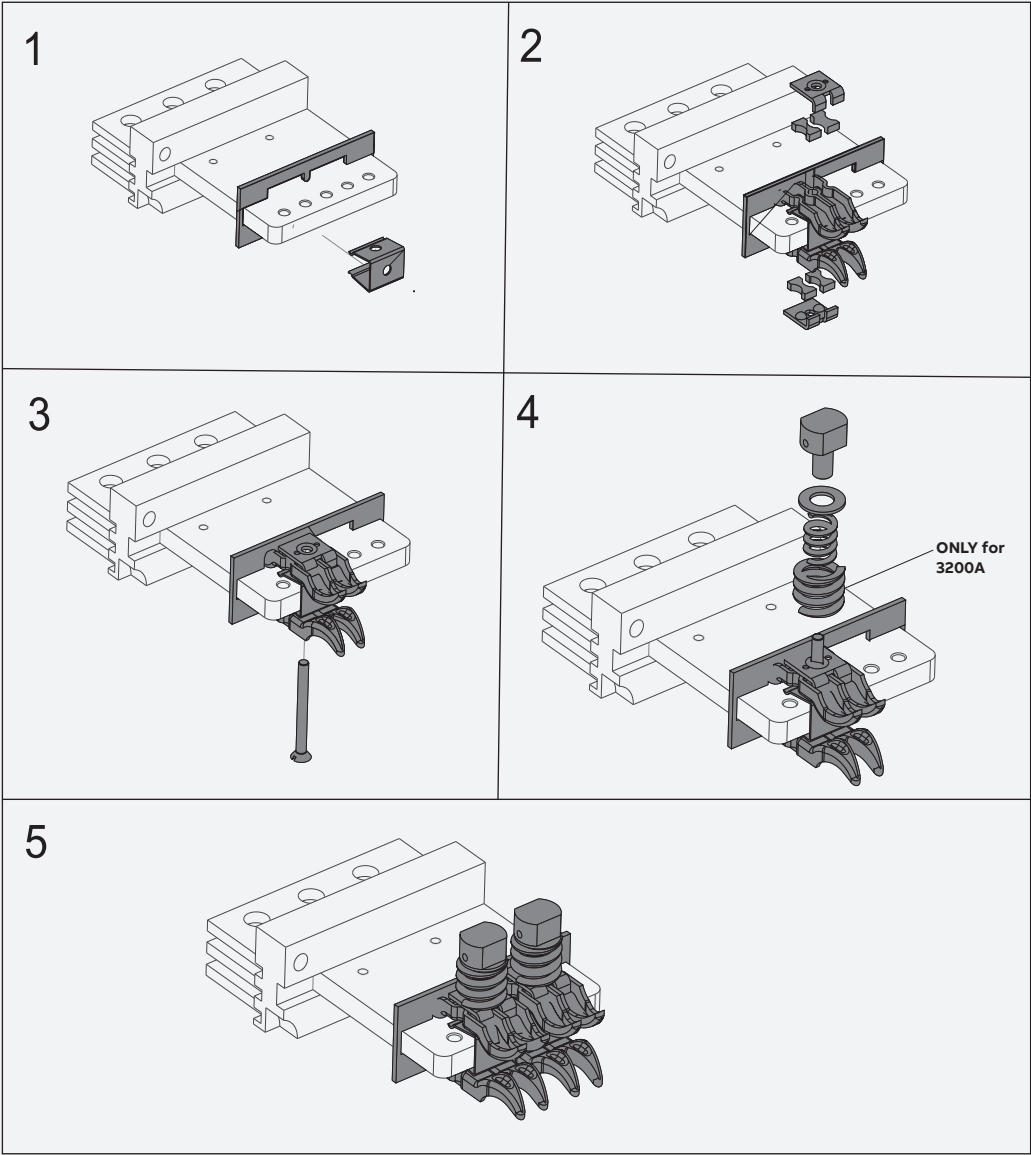
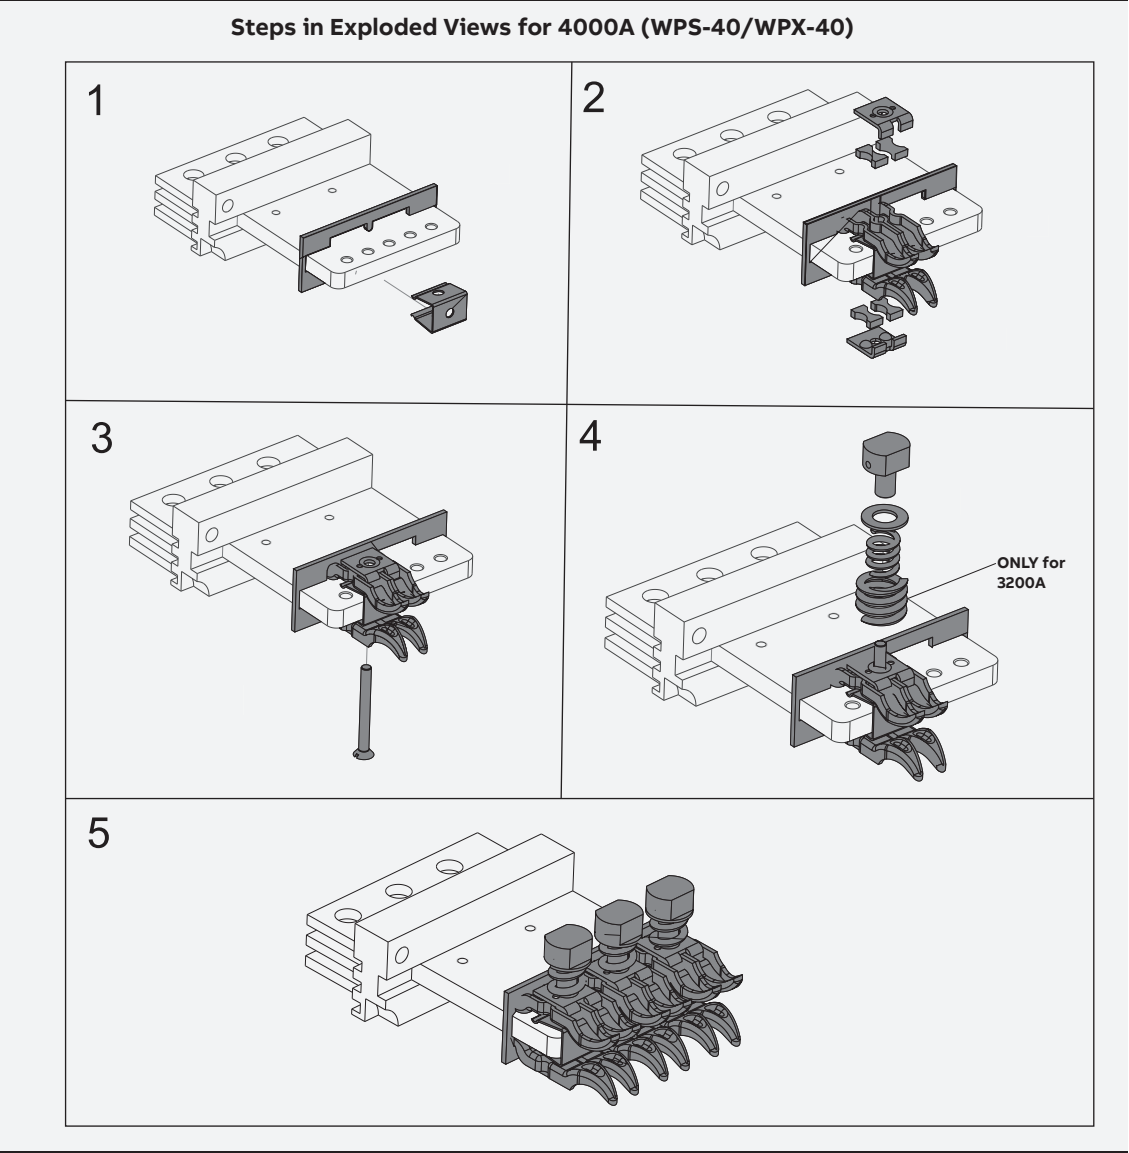

Figure 64
Figure 65
17. Figure 63 , Figure 64 and figure 65 summarizes the steps for working with the primary contacts